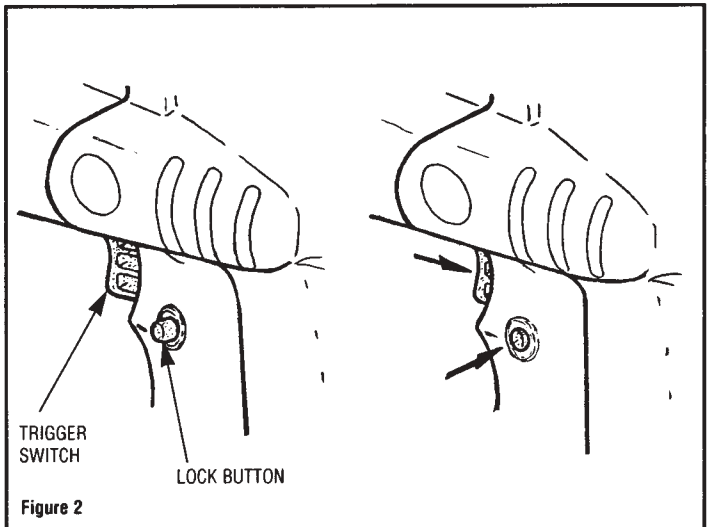

Figure 2
1. **Trigger Switch Operation** - Holding the trigger switch fully depressed will cause the motor to start, releasing the switch will cause the motor to stop. This switch is also equipped with a locking mechanism which allows continuous motor operation. To use this feature, press the switch lock button with the trigger in the "on" position. Press the trigger switch again to release the switch lock. See figure 2.